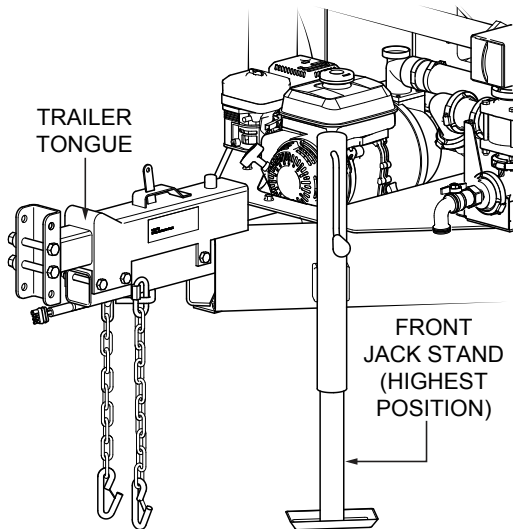

Figure 23. Raise The Trailer Tongue
2. Place the unit on a level surface and raise the trailer tongue by placing the front jack stand in the highest position (Figure 23).